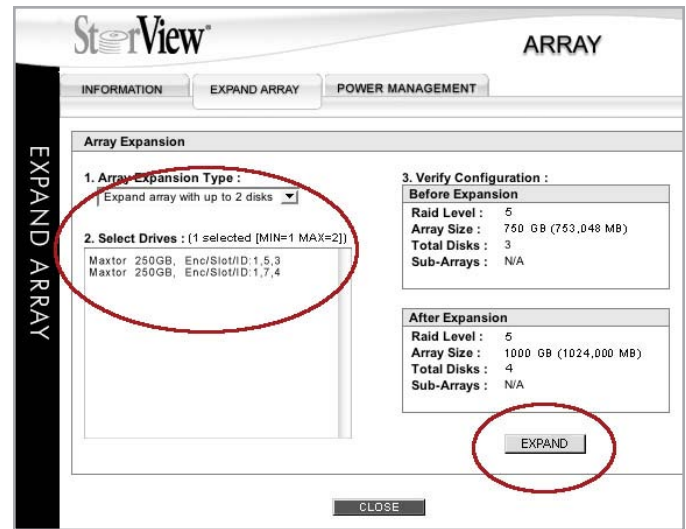

Fig. 84 - Expand Array Tab Selected
3. From the Array Information window, click the EXPAND ARRAY tab, see Fig. 84.